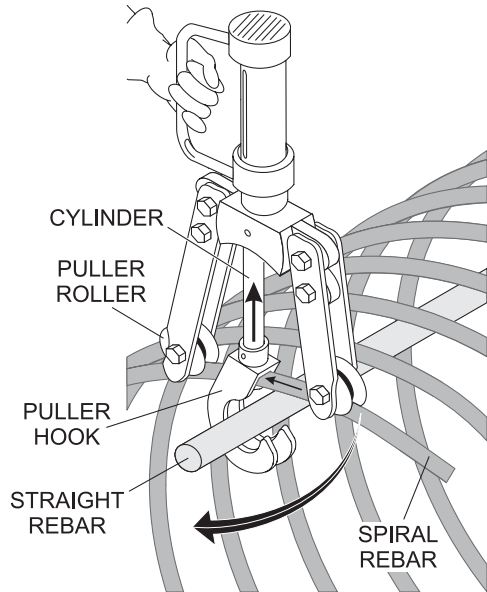

Figure 15. JB5135 Rebar Placement — Rebar Bending
The cylinder on the JB5135 and JB7135 models retract when the control valve lever is in the forward position and extend when the lever is in the reverse position. See Figure 15.
2. Send the end of the spiral rebar through the gap in the puller hook. Secure the puller hook around the straight rebar and align the puller rollers on the spiral rebar (Figure 15).